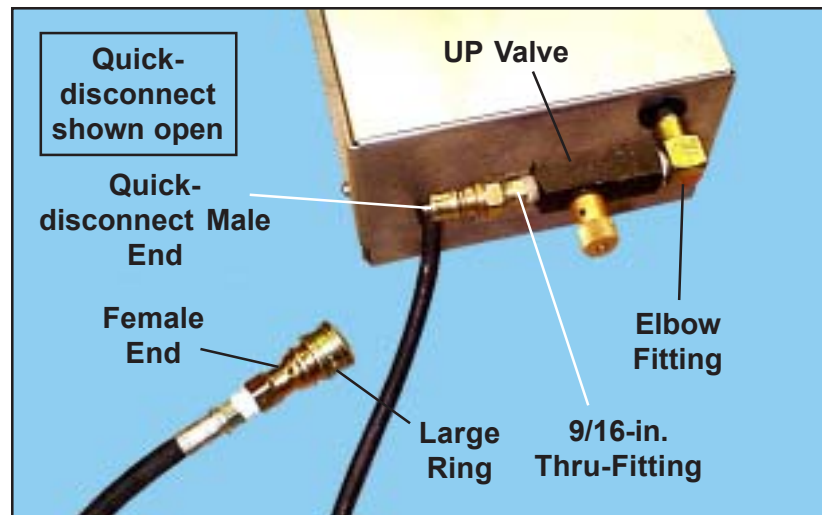

Figure 40. UP Valve Connections
2. At the power pack, dis-connect the hydraulic hose quick-disconnect fitting (Figure 40). **Note:** Pull the large ring away from the valve and the fitting will come free.
3. Screw the **UP** valve onto the elbow fitting. Make sure the brass regulator knob ends up facing outwards as shown in Figure 40. **Note:** The brass regulator knob is not centered on the valve body. The valve should be oriented so that the *long* end of the black valve body is toward the elbow fitting.